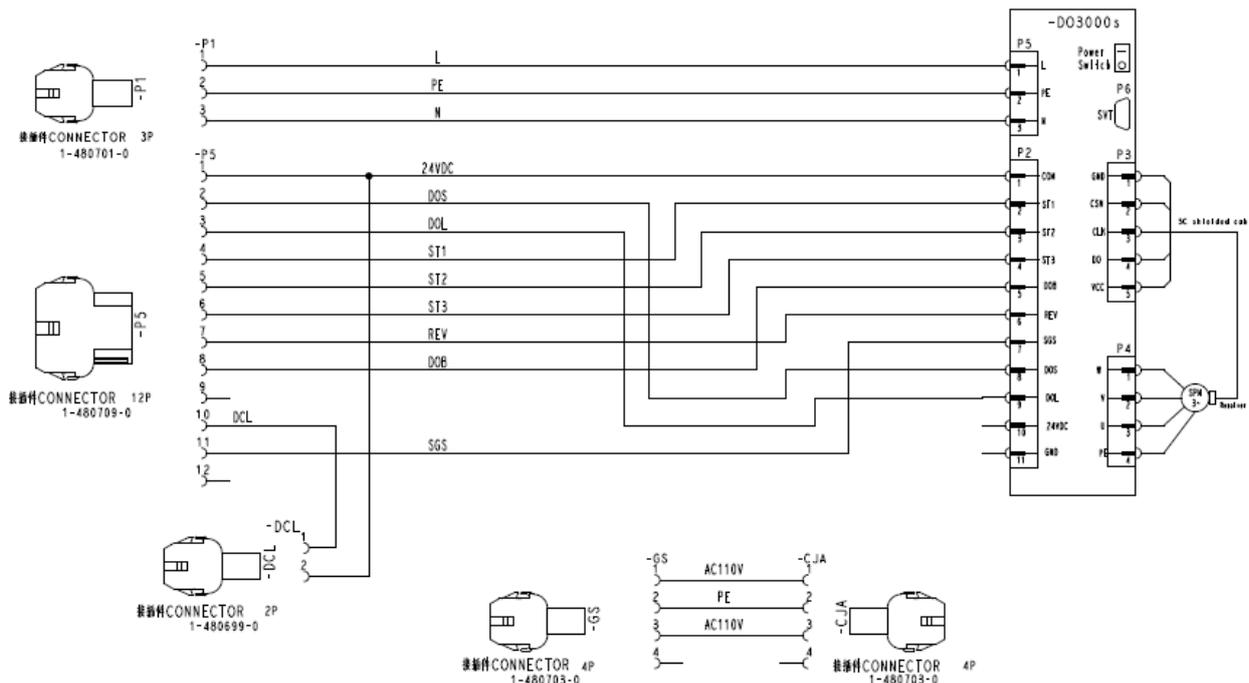

Fig.2-3 Wiring of HAA24360AE2 controller
2.1.3 Wiring of HAA24360AE2 controller components (as shown in Fig.2-3)